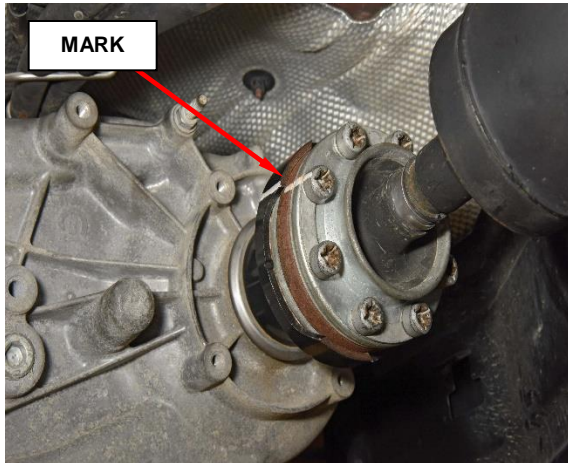
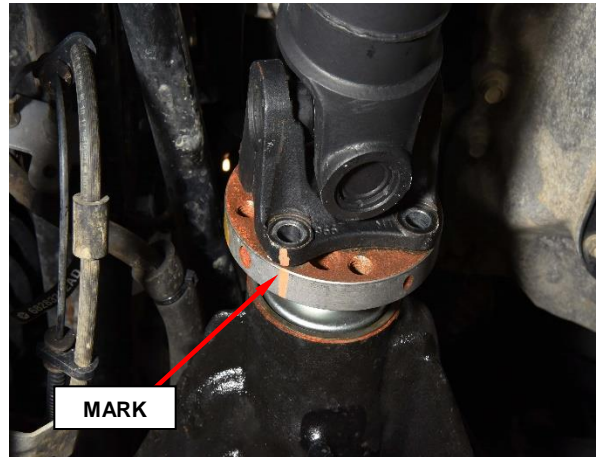

Figure 7 – Transfer Case Flange
Figure 8 – Front Propeller Shaft
8. Mark the transfer case rear flange and the propeller shaft for installation reference before removing the propeller shaft. Mark the transfer case front flange and the front propeller shaft before removing the propeller shaft (Figure 7 and Figure 8).
9. Remove the rear drive shaft flange bolts at the transfer case and the bolts at the rear axle and remove propeller shaft and set aside (Figure 7).
18. Install the front driveshaft to axle flange with the reference marks aligned and tighten the **NEW front** driveshaft to front axle flange bolts to 121N·m (89ft. lbs.) Tighten the **NEW** front driveshaft to transfer case flange bolts to 39N·m (29ft. lbs.) (Figure 8).